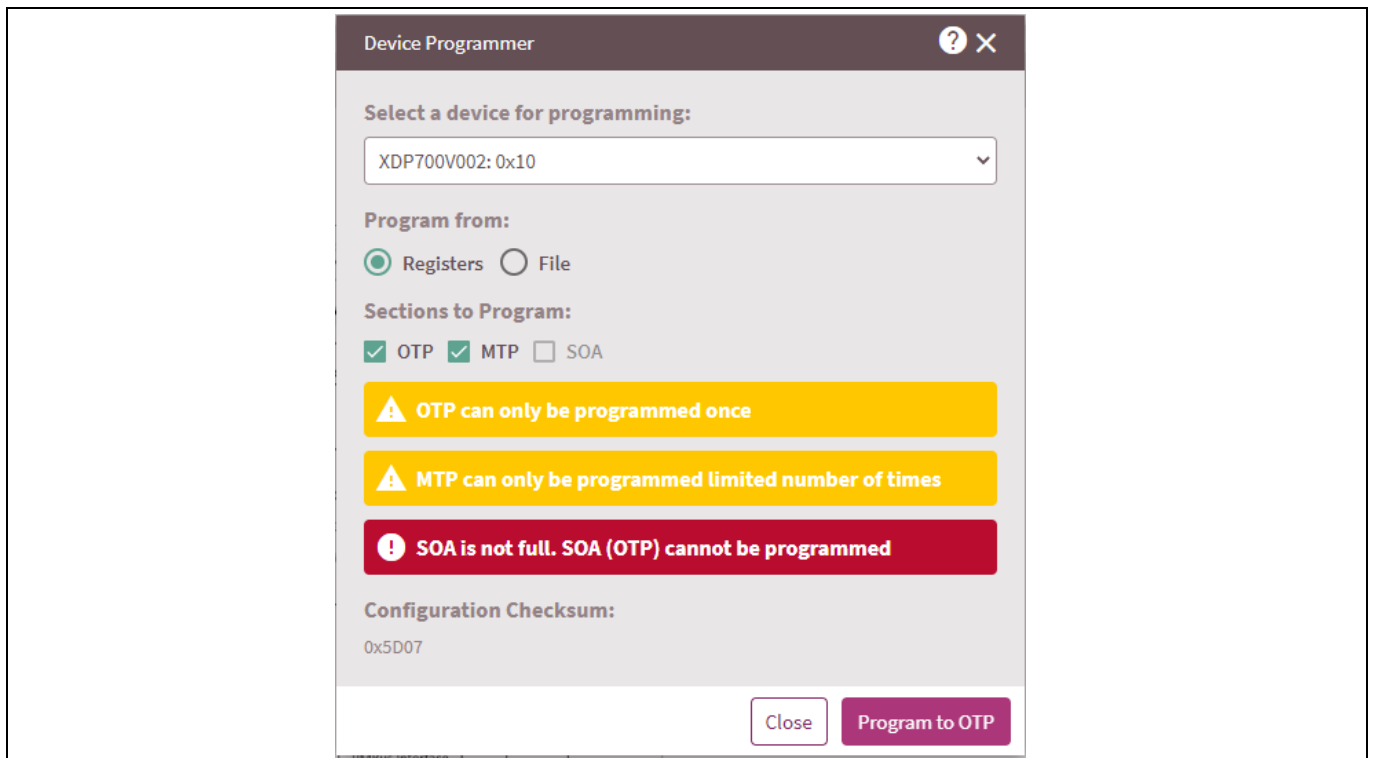

Figure 46 OTP and MTP programming
3. Set the program from **Registers**, select the memory section that needs to be programmed, and click **Program to OTP**, as shown in Figure 46.